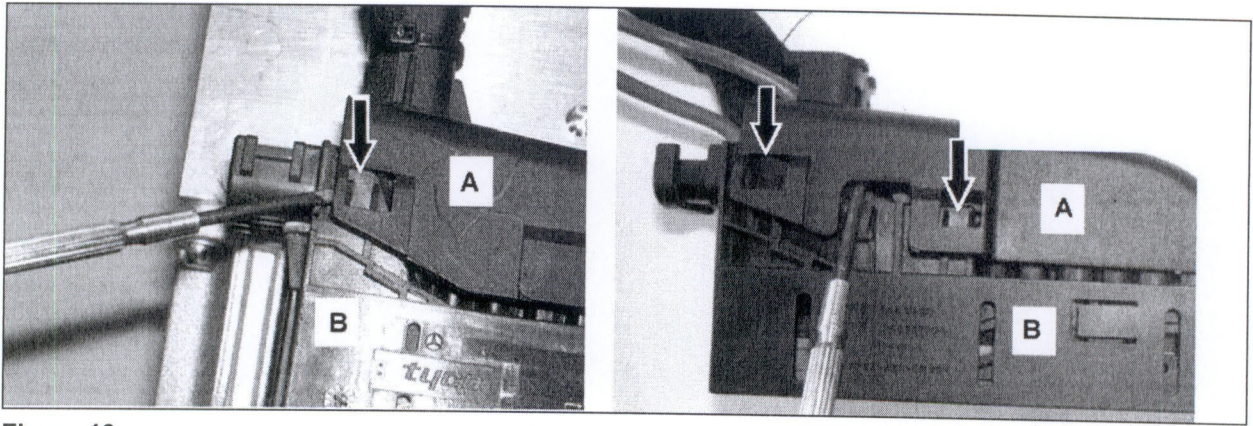

Figure 13
12. Remove SBC connector housing cover (A, Figure 13):
- Using a small screw driver, carefully pry cover (A) away from locking lugs (arrows) until cover (A) disengages.
- Remove the cover (A) from the housing (B).
17. Reinstall connector cover (A, Figure 13) in reverse order.